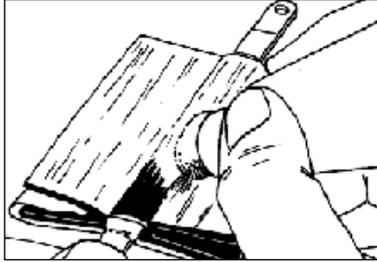

Figure 14
2. Open clip wings on one side. Lubricate the wings abundantly to ensure that they do not stick together. (Figure 14)